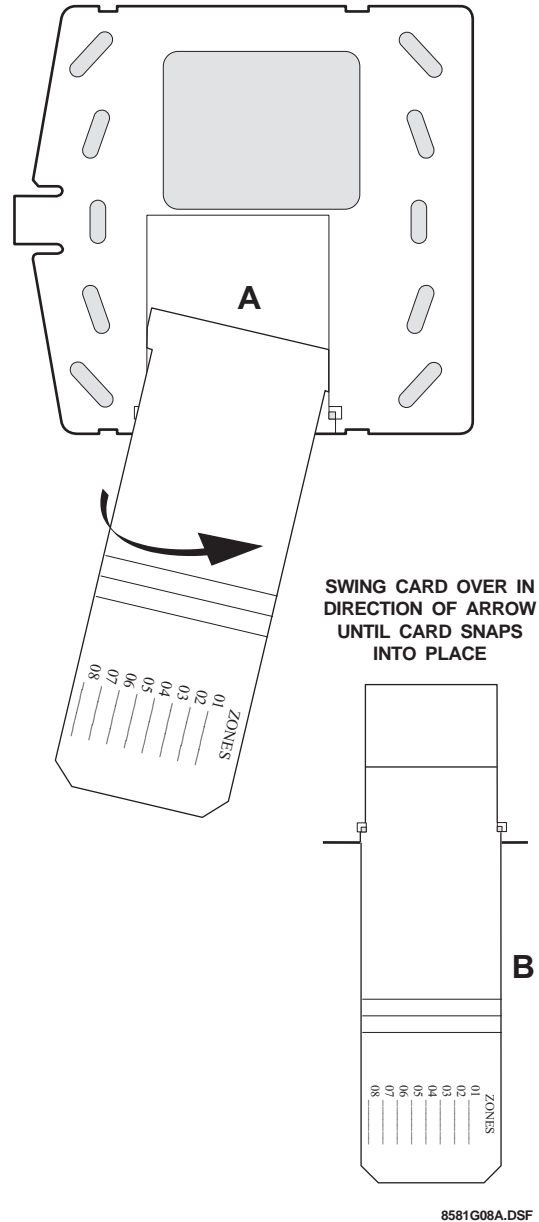

Figure 3. Inserting the Quick Guide Slide-Out Card into the Mounting Plate
4. Looking at the back side of the mounting plate, turn it so the tab is on the left (see A in Figure 3) and position the Quick Guide slide-out card into the slots on back of the mounting plate as shown in Figure 3 (A). Make sure the card is unfolded and the “Zones” section is facing you.
5. Slide the card in the direction of the arrow in Figure 3 (A) until it snaps into the position shown in Figure 3 (B).